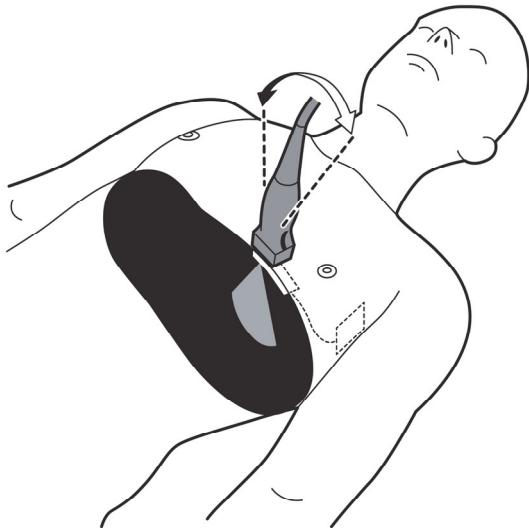

Figure 14: Position probe at estimated medial-lateral angle Transmitter would naturally lay once implanted
- 15B.** Using the cardiac probe as a proxy for the Transmitter angulation once implanted, hold the probe at the estimated medial-lateral angle that the Transmitter would naturally lay once implanted. See Figure 14.